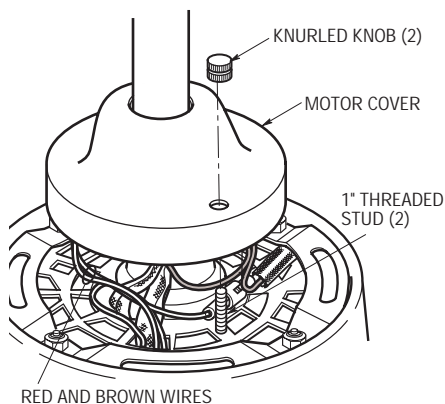

Figure 12
20. Screw two 1" threaded studs (supplied with ceiling fan) into the motor (Figure 12). Leave approximately 7/8" of the stud extending above the motor. Slide the motor cover over the downrod and rotate the cover until the threaded studs protrude; install two knurled knobs (supplied with ceiling fan).